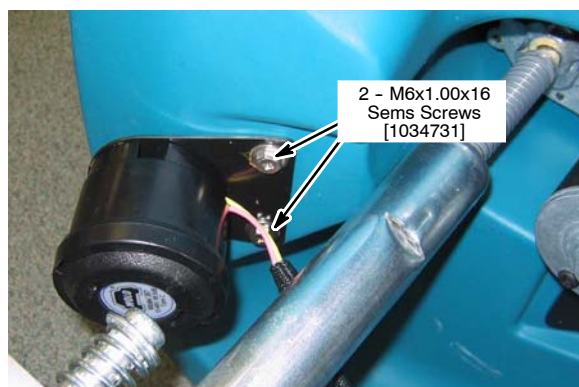

Fig. 33
2. Using two M6x1.00x16 sems hex screws [p/n 1034731], attach the horn to the machine as shown (Figure 33). Secure wire harness with wire-tie.